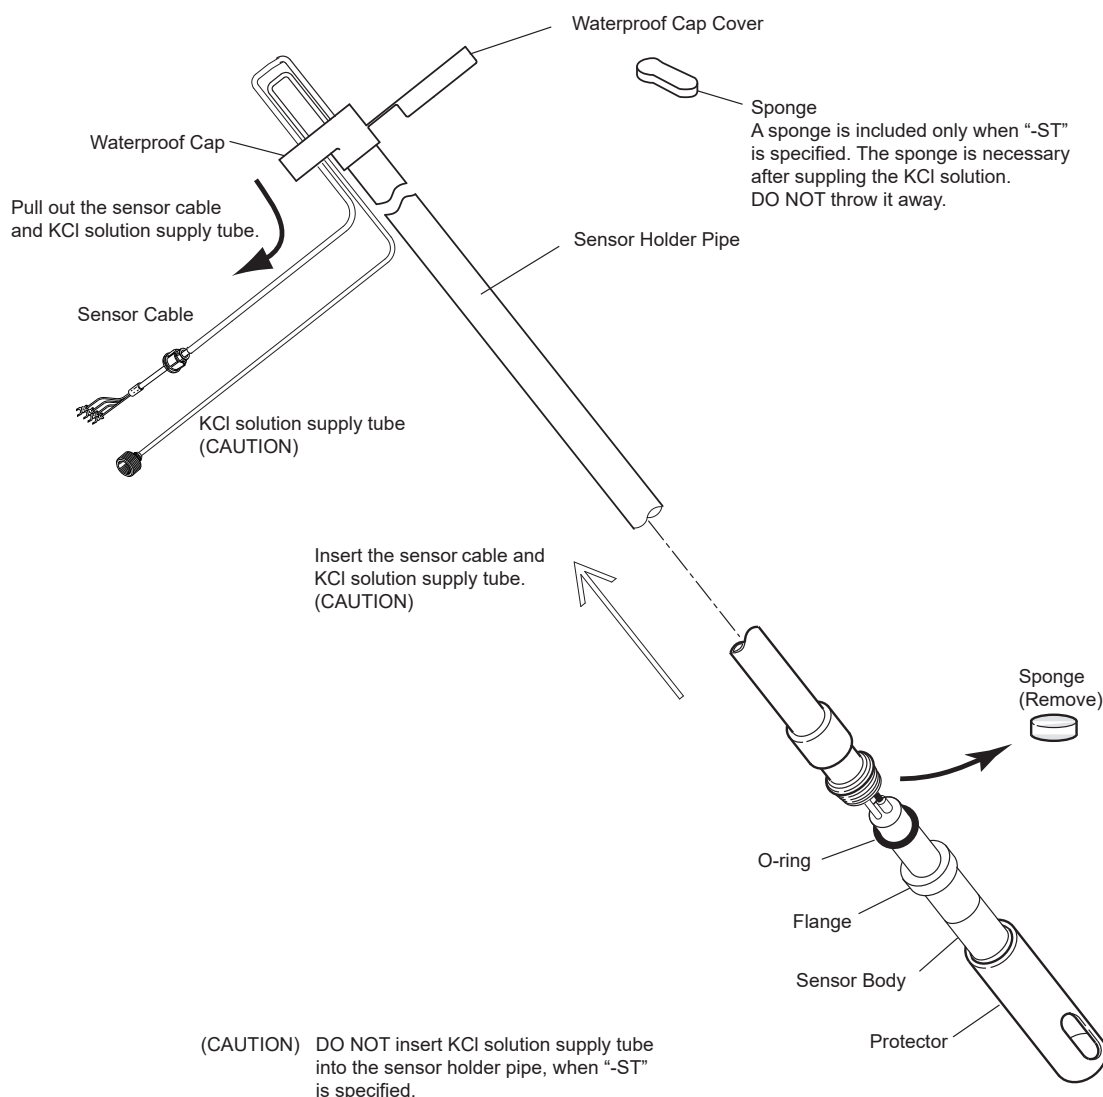

Figure 2.8 Assembling into the sensor holder
- (2) Pass the cable and KCl solution supply tube through the sensor holder as follows:
- First, as shown in Figure 2.8, remove the protector screwed into the tip of the sensor holder. After removing it, take away the sponge (material for transportation, not necessary after remove). Pass the sensor cable and KCl solution supply tube through the O-ring and attach it to the flange of the sensor.